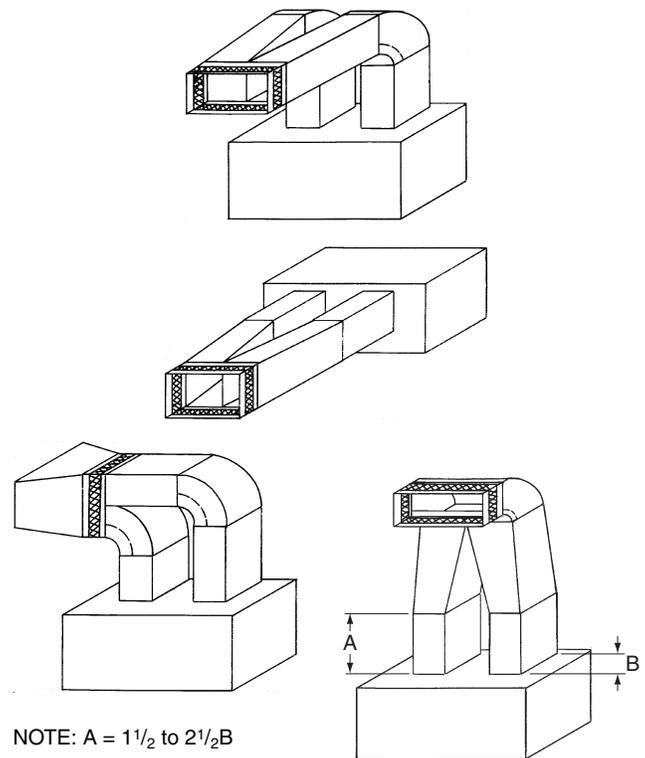

Fig. 15 — Typical Fan Discharge Connections for Multiple Fan Units
Step 3 — Install Ductwork — The VAV units must use a "pair of pants" configuration as shown in Fig. 15. Refer to the Carrier System Design Manual or ASHRAE (American Society of Heating, Refrigerating and Air Conditioning Engineers) standards for the recommended duct connection to unit with 2 fans.